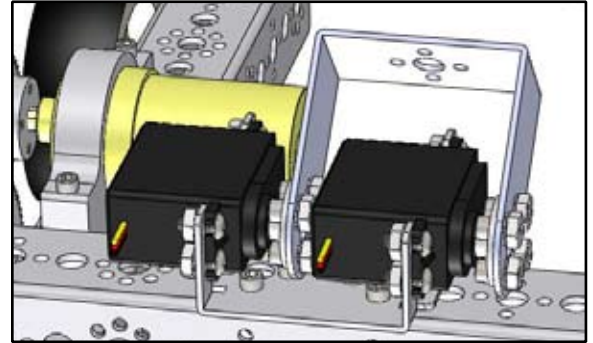

Figure B12
- Place the second servo so it faces out of the motor bracket and is parallel to the other servo (Figure B12). Use four 3/8" BHCSs and kep nuts to secure the second servo to the bracket.